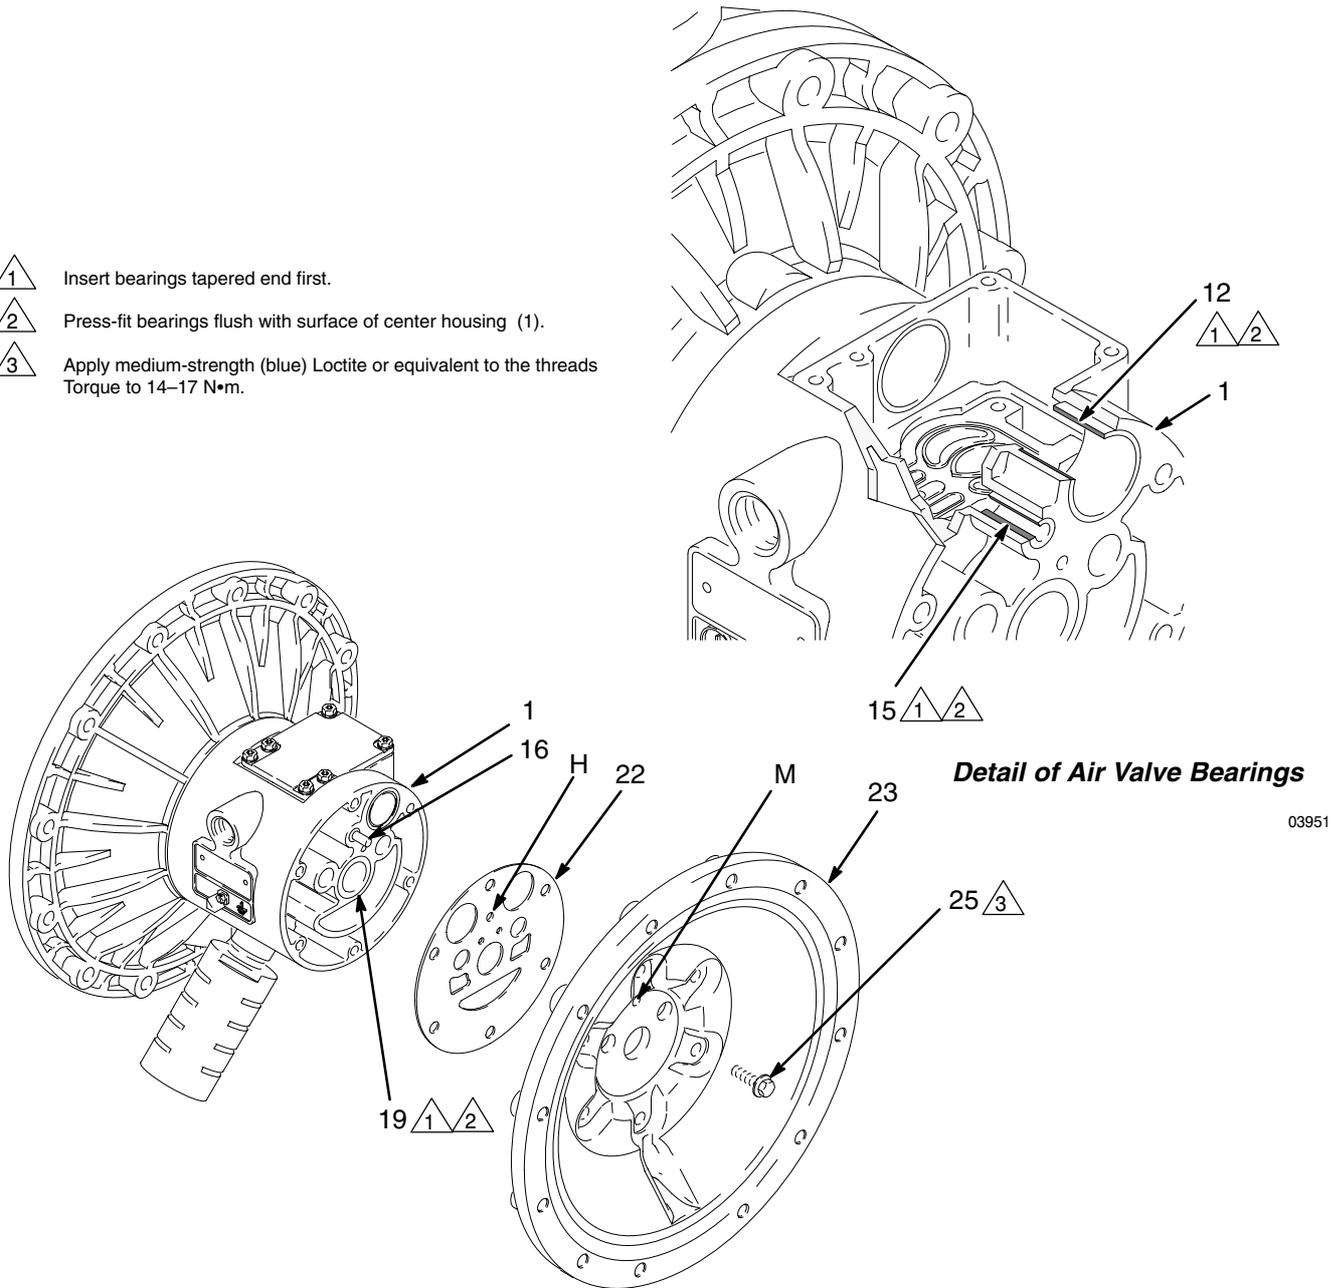

Fig. 13
5. Using a 10 mm socket wrench, remove the screws (25) holding the air covers (23) to the center housing (1). See Fig. 13.
6. Remove the air cover gaskets (22). Always replace the gaskets with new ones.
7. Use a bearing puller to remove the diaphragm shaft bearings (19), air valve bearings (12) or pilot pin bearings (15). Do not remove undamaged bearings.
1. If removed, install the shaft u-cup packings (402*) so the lips face **out** of the housing (1).
2. The bearings (19, 12, and 15) are tapered and can only be installed one way. Insert the bearings into the center housing (1), **tapered end first**. Using a press or a block and rubber mallet, press-fit the bearing so it is flush with the surface of the center housing.
4. Align the new air cover gasket (22) so the pilot pin (16) protruding from the center housing (1) fits through the proper hole (H) in the gasket.
5. Align the air cover (23) so the pilot pin (16) fits in the middle hole (M) of the three small holes near the center of the cover. Install the screws (25), handtight. See Fig. 13. Using a 10 mm socket wrench, torque the screws oppositely and evenly to 14–17 N•m.